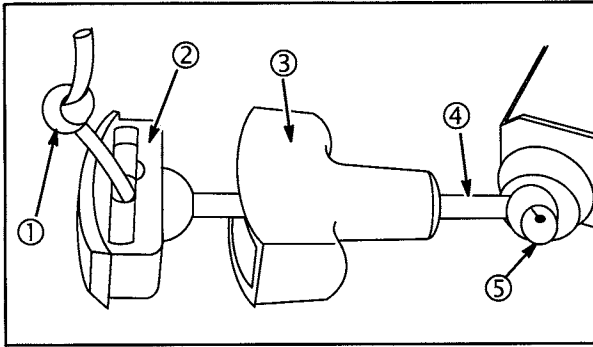

Fig. 55
10. Insert rope (4) through starter rope handle (3) and handle insert (2), **Fig. 55**.
12. Pull knot (1) into rope insert and pull insert into rope handle.
13. Untie temporary knot (5) and slowly let rope rewind into starter.